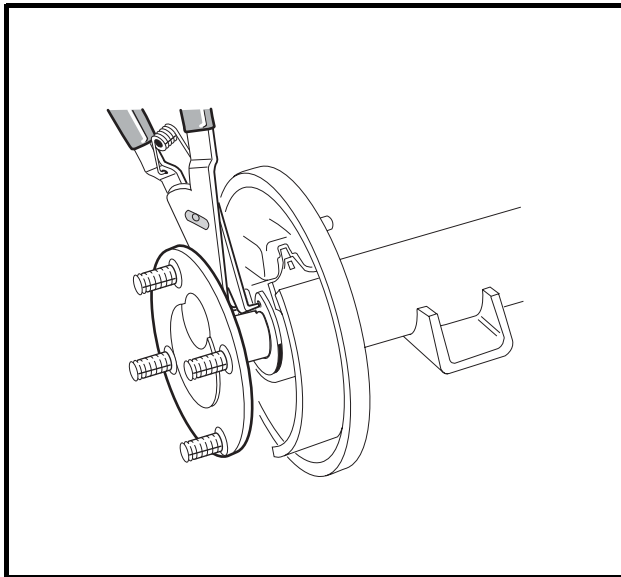
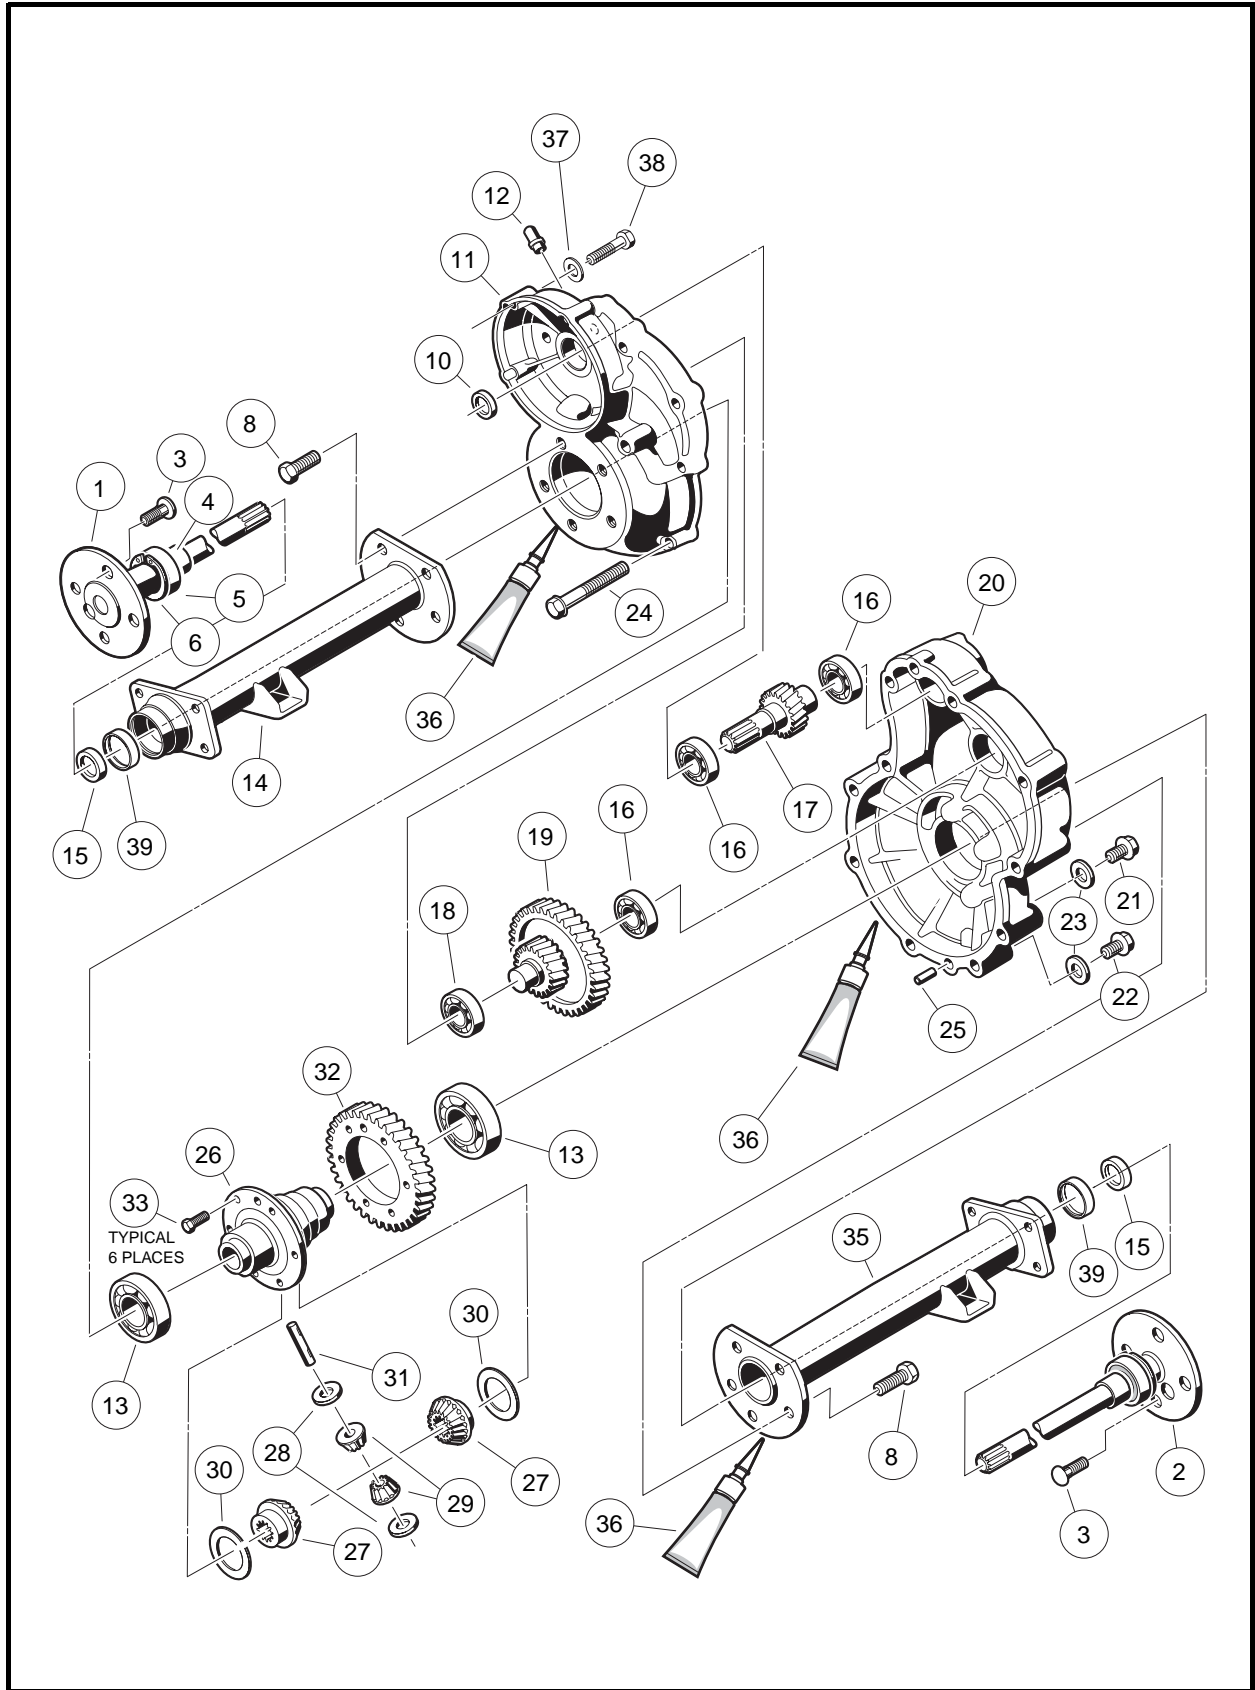
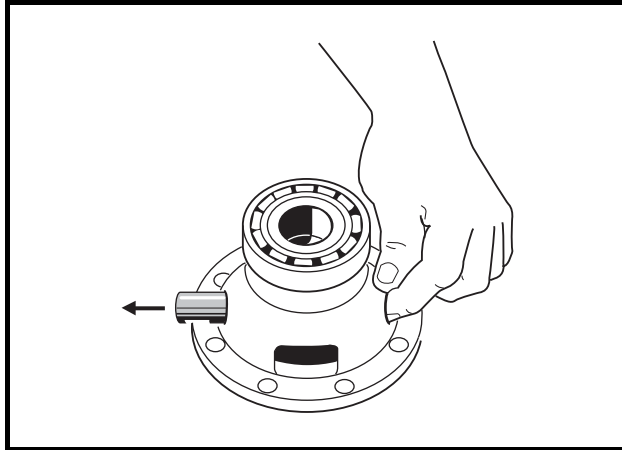

Figure 17-1 Axle Tube
Figure 17-5 Transaxle – Type G
Figure 17-15 Differential Pin
There are two plugs located on the lower half of the transaxle housing. The upper plug (21) (as viewed when the vehicle is on a level surface) is used as a lubricant level indicator (**Figure 17-5, Page 17-3**). When the vehicle is parked on a level surface, the lubricant level should be even with the bottom of the hole. The lower plug (22) is for draining the lubricant. When draining the lubricant, the upper plug should be removed so the lubricant will drain faster. Be sure the drain plug is installed before filling. **See following NOTE.**
4. Use 90° internal snap ring pliers to remove the internal retaining ring (6) from the axle tube (**Figure 17-5, Page 17-3**). **See also Figure 17-1, Page 17-2.**
8. Inspect bearing (5) (**Figure 17-5, Page 17-3**). If the bearing in a Type G transaxle is worn or damaged, the entire axle shaft assembly (1 or 2) must be replaced.
- 1.3. Clean adapter ring seat(s) in the axle tube (14 or 35) (**Figure 17-5, Page 17-3**).
- 2.1. Insert the shaft, splined end first, through the seal and into the axle tube. Be careful not to damage the seal on the inside of the axle tube hub. Advance the shaft through to the bearing on the shaft, then rotate it to align the shaft splines with the splined bore of the differential side gear (27) (**Figure 17-5, Page 17-3**). Continue advancing the shaft until the bearing on the axle is firmly seated within the axle tube hub seat.
- 2.2. Use a pair of snap ring pliers to install the retaining ring (6) inside axle tube hub so that it seats against the axle bearing assembly and into the machined slot in the inside wall of the axle tube hub (**Figure 17-5, Page 17-3**). **See following NOTE.**
**NOTE:** *If the retaining ring (6), axle bearing (5), or sleeve (4) must be replaced, the entire axle shaft assembly (1 or 2) must be replaced (**Figure 17-5, Page 17-3**).*
Do not remove the axle bearing (5) from a Type G transaxle. If bearing is worn or damaged, the entire axle assembly (1 or 2) must be replaced (**Figure 17-5, Page 17-3**).
1. To detach axle tubes (14 and 35) from the transaxle housing, remove the bolts (8) (**Figure 17-5, Page 17-3**).
2. Remove 11 bolts (24) that hold housing together.
3. Pull the halves of the housing (11 and 20) apart. If necessary, tap lightly on the spline of the input pinion (17). **See following CAUTION.**
4. Remove input pinion gear (17) by pulling gear out while rocking intermediate gear assembly (19). Lift intermediate gear assembly and differential gear case unit out simultaneously (**Figure 17-5, Page 17-3**). **See following CAUTION.**
5. Use a bearing puller or arbor press to remove bearings (16) from the input pinion gear. If the oil seal (10) is damaged, replace it (**Figure 17-5, Page 17-3**). **See also Figure 17-13, Page 17-8. See following CAUTION.**
6. To disassemble the intermediate gear assembly, press off together the bearing (16) and the gear (19) (**Figure 17-5, Page 17-3**). **See also Figure 17-13, Page 17-8.**
7. Press the bearing (18) off the intermediate gear assembly (**Figure 17-5, Page 17-3**).
- 8.1. Remove the hex bolts (33) and the ring gear (32) from the differential case (**Figure 17-5, Page 17-3**).
- 8.4. Remove the differential pin (31) by pushing pin through differential gear case from one side (**Figure 17-5, Page 17-3**). See also **Figure 17-15, Page 17-9**.
8.7. Inspect the bearings (13) of the differential case (26) and replace them if they are damaged (**Figure 17-5, Page 17-3**). To remove them, press them off. **See following CAUTION.**
1. If bearings (13) were removed during disassembly, install new bearings using an arbor press (**Figure 17-5, Page 17-3**).
- 2.1. Install the pin (31) (**Figure 17-5, Page 17-3**). Apply a small amount of oil to all thrust plates and to both ends of the pin.